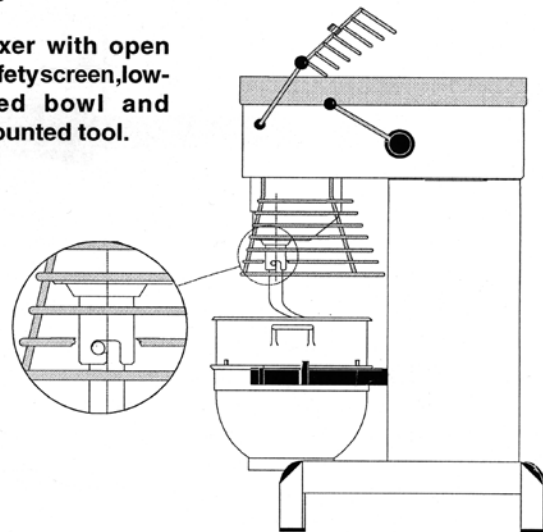

Fig. 3
A) Open the bowl screen and place the bowl in the bowl arms. Note: The bowl arms must be in lowest position and the bowl must be pushed all the way into the bowl arms. (Fig.3).